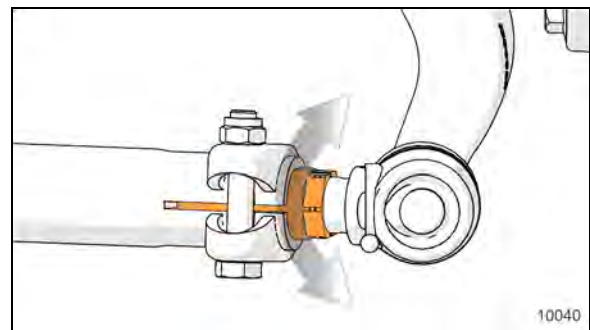

FIGURE 7: FINE ADJUSTER SLEEVE ON TIE ROD
- Turn the adjuster sleeve (Figure 7) until the specified toe-in measurement is obtained.